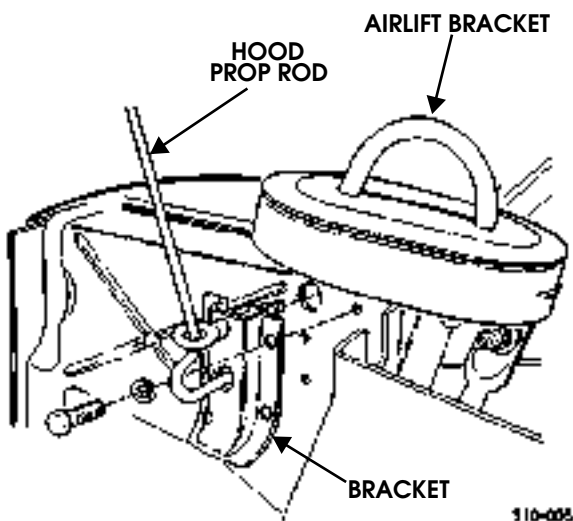

Figure 10-82: Hood Prop Rod and Bracket Replacement
3. Remove four screws, lockwashers, bracket, and hood prop rod from airlift bracket (Figure 10-82).
1. Secure hood prop rod and bracket to airlift bracket with four lockwashers and screws. Tighten screws to 6 lb-ft (8 N•m) (Figure 10-82).